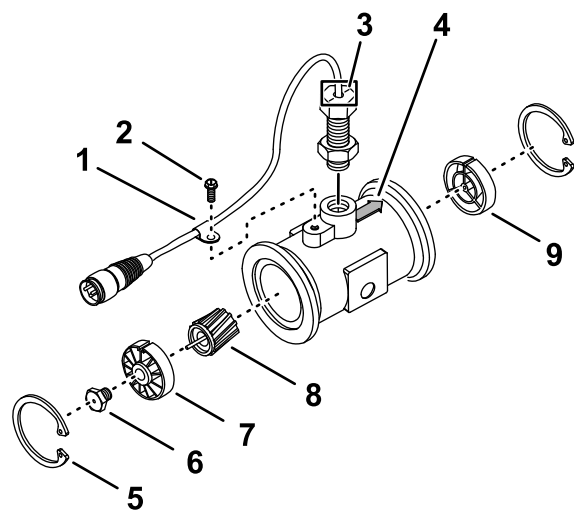

Figure 206
- Remove the retainer ring on the upstream side (Figure 206).
- Install the sensor until it gently touches the bottom of the housing, then back out the sensor until the alignment marks are parallel with the flow arrow of the flanged body (Figure 206).